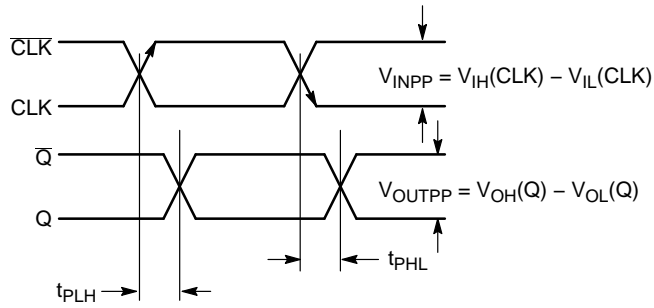

Figure 18. AC Reference Measurement
26. See Figure 18.  $t_{SKEW} = |t_{PLH} - t_{PHL}|$  for a nominal 50% differential clock input waveform.